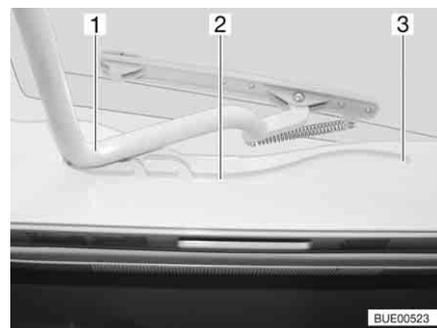

Fig. 105 Heki skylight, guide
- Pull the bar (Fig. 105,1) in the guides (Fig. 105,2) to the rearmost position (Fig. 105,3).
- Use both hands to push the bar (Fig. 105,1) slightly upwards.
- Pull the bar in the guides (Fig. 105,2) to the desired position.